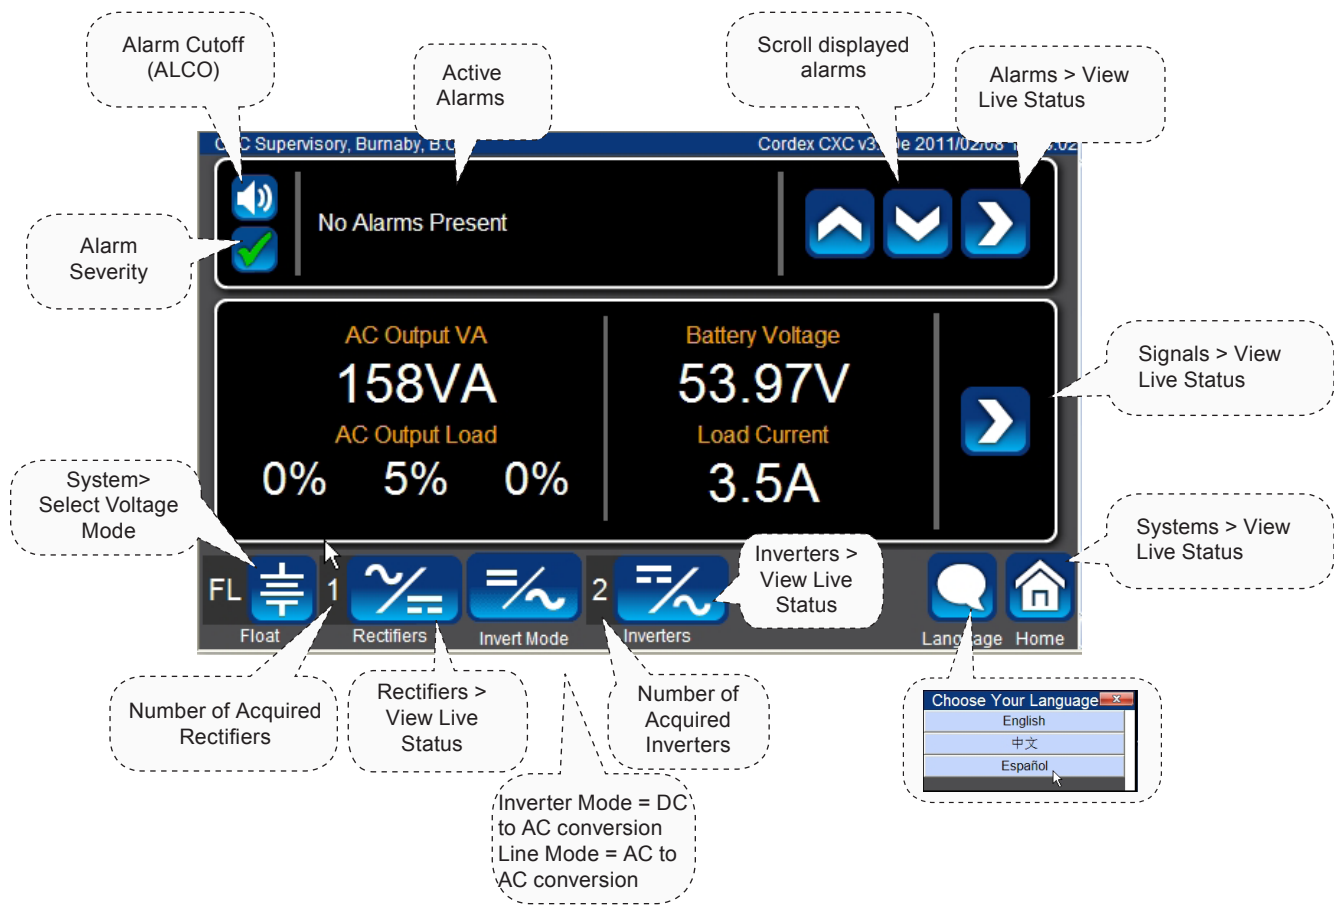

Figure 22 — Home Screen (Web Interface)
6. Tap **Navigate To**. The Home screen (Figure 22) appears.